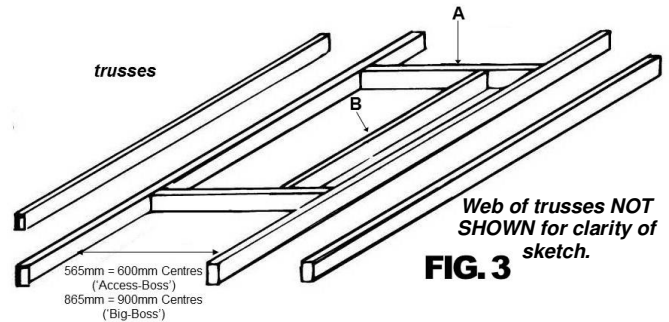

FIG. 3
What you need to make the opening – Trusses (Fig. 3):
'Big-Boss' Series: 600mm centre trusses are not suitable for 'Big-Boss'™ Models. In some cases, with the approval of a Building Surveyor, the truss spacing can be modified to provide a clear space of 770mm between trusses. Buildings with light roofing such as metal, corrugated or stramit types, etc., may have truss spacings at 900mm centres, in which case Fig. 3 applies. 900mm centres should give you a clear distance of 865mm between, but **you need to measure** and cut two (2) trimmers ('A') to the right size to fit in between. Locate the trimmers to suit a hatch cut-out of 1220mm or 1520mm in length, depending on Model No. – they need to be nailed in square. Now cut and nail the third trimmer ('B') to form the width of 770mm in between. Smaller hatches can be manufactured at extra cost or refer to the 'Access-Boss'™ series).